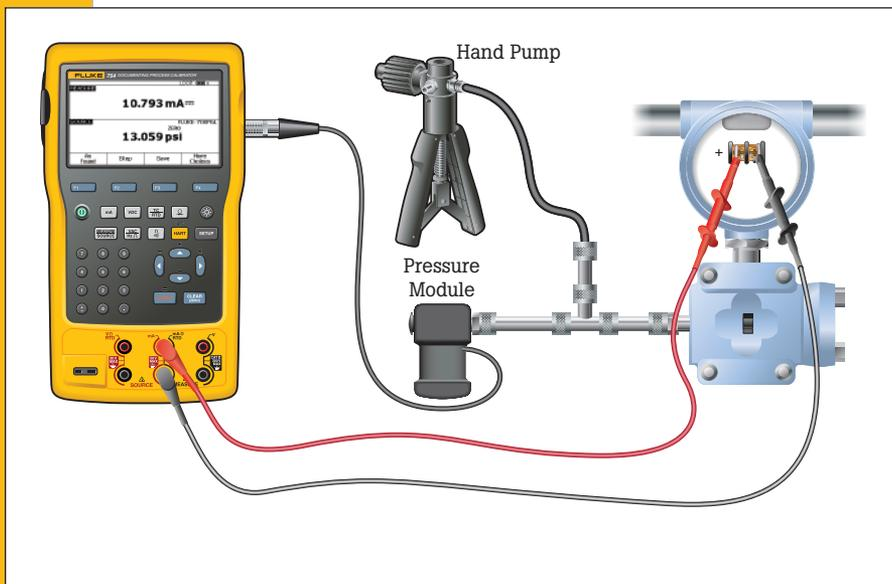

Figure 20.
1. Connect the pressure module to the DPC. Connect the input of the P to I and the output of a pressure hand pump to the input of the pressure module using a "T" connector (Figure 20). If you are using a differential pressure module, ensure (for this example) it is a 15 PSI module and connect to input labeled "H."
2. Connect from the center 2 banana type connections of the DPC to the input of the P to I where loop power is supplied (Figure 20).